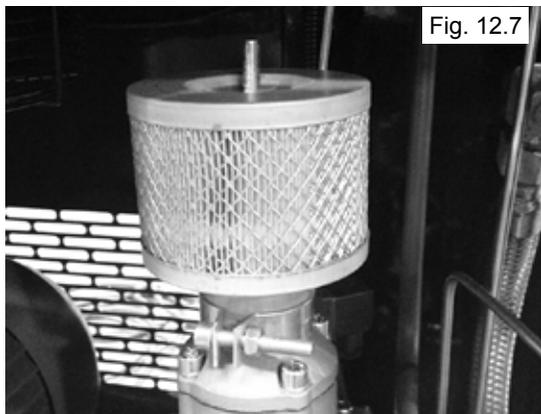

Fig. 12.7
3. Check the condition of intake filter, either blow it clean with compressed air or replace if necessary. (See Fig. 12.7)